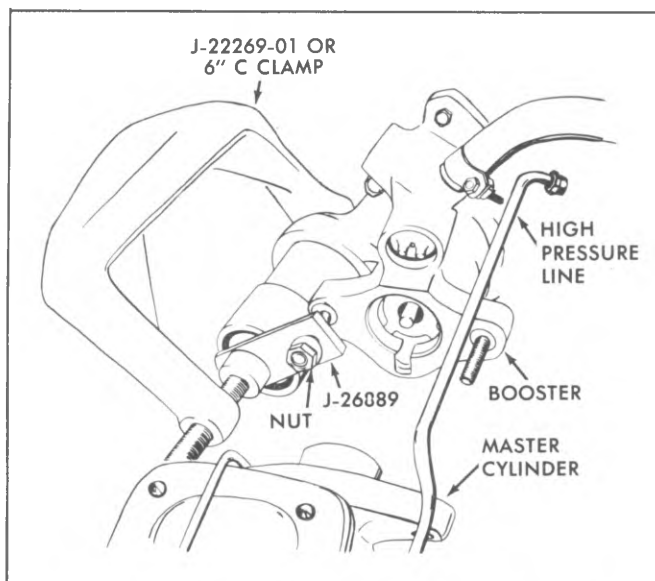

Fig. 5-57--Compressing Accumulator With J-26889
4. Place the accumulator retaining cap Tool J-26889 over the master cylinder stud and install the nut as shown in Figure 5-57.
5. Using Tool J-22269-01 or a large "C" clamp (6" minimum), depress the accumulator. Insert a punch into the hole in the housing and remove retaining ring with a small screwdriver, (fig. 5-57).
2. Using Tool J-22269-01 or a large "C" clamp (6" minimum) depress the accumulator making certain that the accumulator is compressed straight (fig. 5-57).